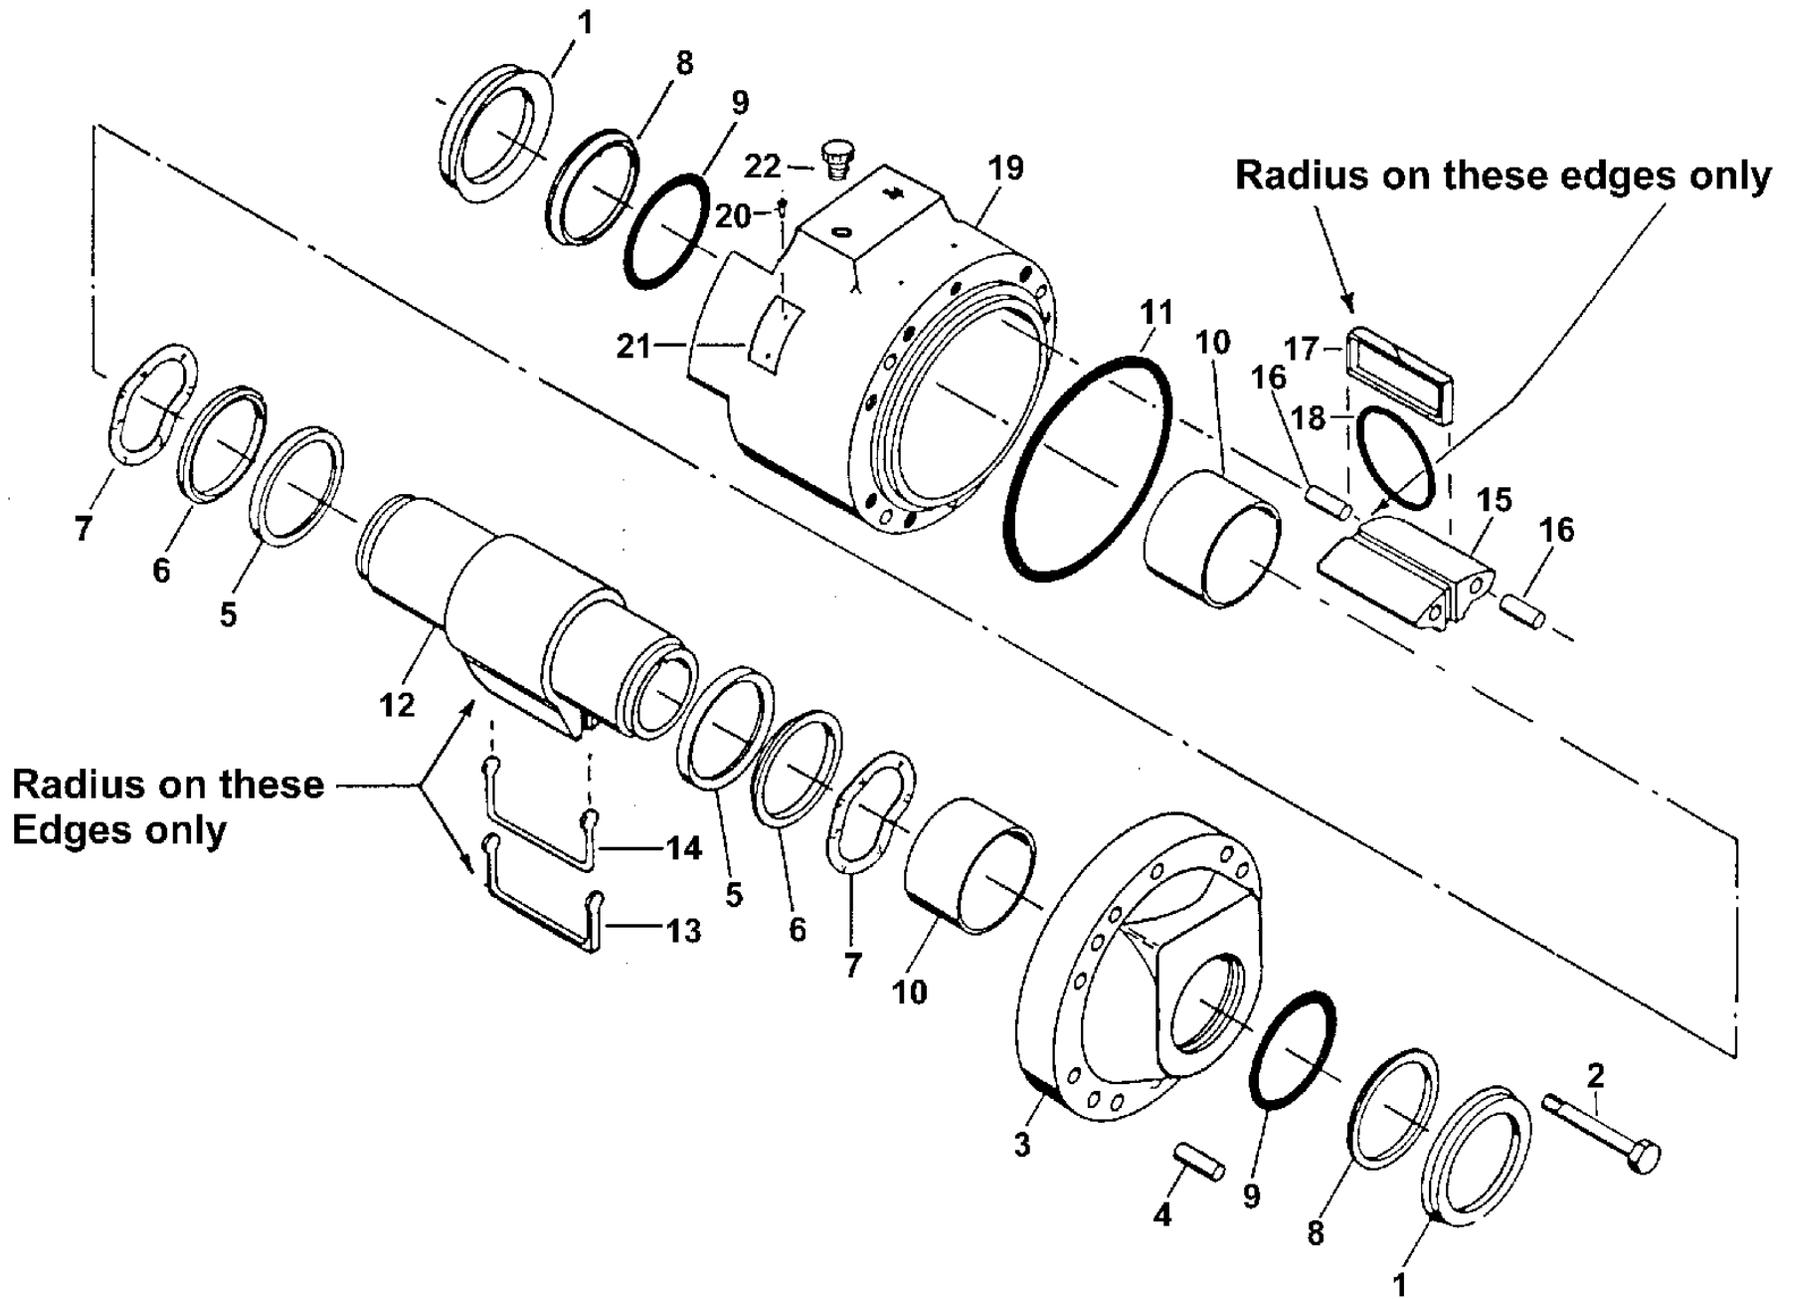

Figure 5 -- HS Series Rotary Actuator Assembly exploded view. See page 8 for reference.
c. Figure 5. Install vane seal gasket (14) and "C" type vane seal (13) in the groove in wing shaft (12) noting that the edge radius on seal (13) and wing shaft (12) are on the same side. Coat seal (13) liberally with lubricant.